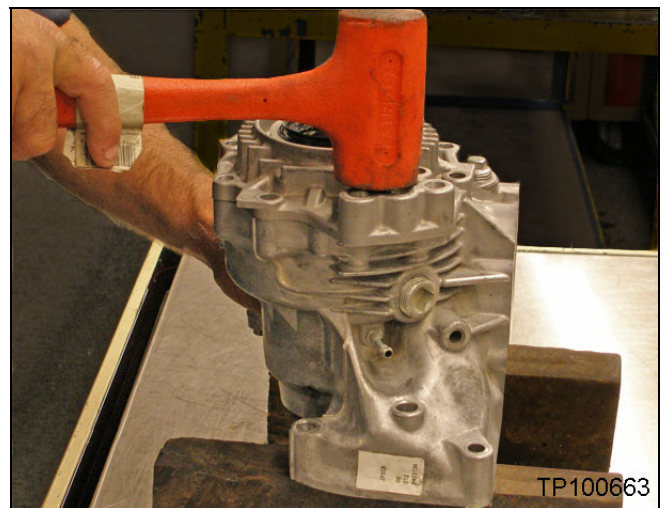

Figure 18
21. Install the adaptor case to the transfer case (see Figure 18).